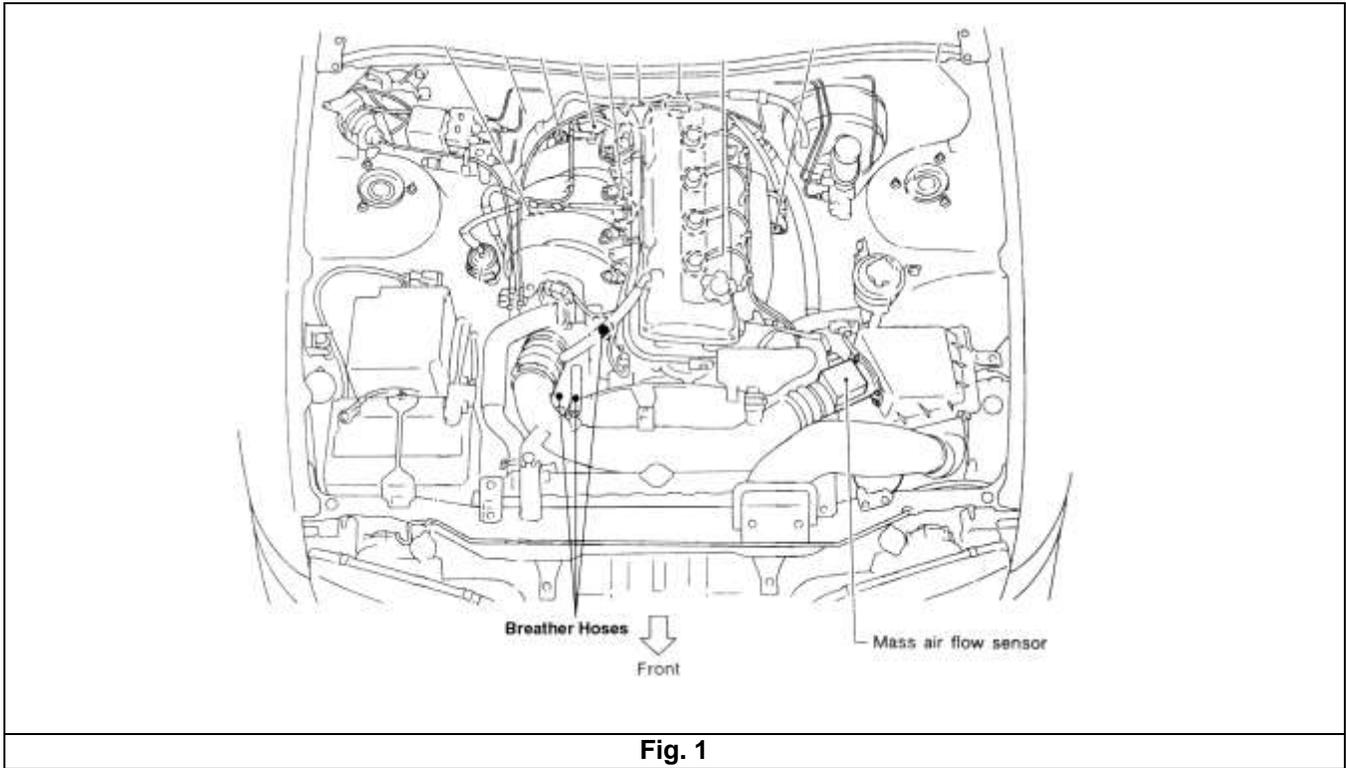

Fig. 1
- a. Make note of the factory air box configuration. There are three breather hoses and a mass air flow sensor (MAF). Refer to the following diagrams for the identification of these components. (Fig. 1)